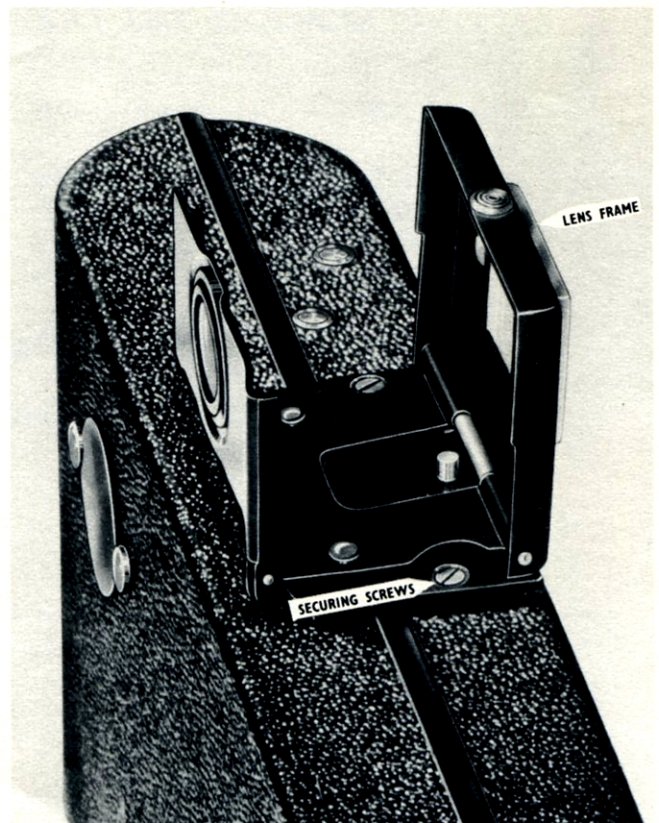

FIGURE 3
1. Remove the securing screws shown in Figure 3.